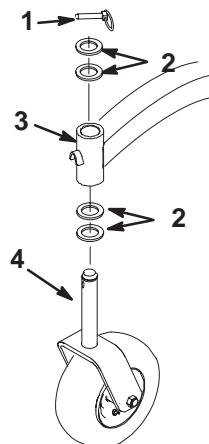

Figure 75
2. Remove the locking pin and spacer(s) from the top of the caster wheel fork (Fig. 75).
6. Inspect the caster wheel fork for wear and replace if necessary (Fig. 75).
7. Slide the caster wheel fork through the bushings in the mounting tube. Replace the spacer(s) onto the fork and secure with the retaining ring (Fig. 75).